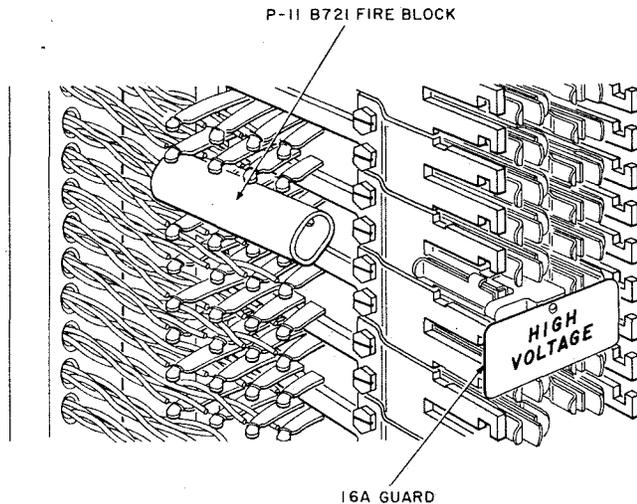

Fig. 10—Protecting B-Type Frames And 444-Type Jacks
- (c) **B-Type Frames Equipped with 444-Type Jacks:** Install a P-11B721 fire block over the terminal lugs and then place a 16A guard in the jack of the cable pair to be tested as illustrated in Fig. 10. The 16A guard opens the contacts in the 444-type jack. The P-11B721 fire block prevents spreading of fire in the event arcing occurs. The block consists of an oval-shaped, semirigid, molded nylon tube approximately 2-1/2 inches long. A slot is provided along one edge to permit sliding the block over the lugs and skinners.